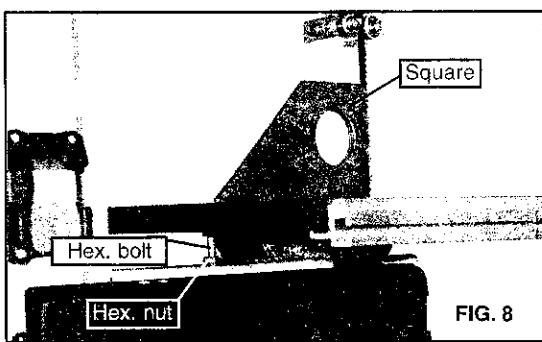

FIG. 8
- Using a wrench, release the hex. nut on the frame. (See Fig. 8)
- Place the wrench on the hex. bolt and adjust until the table square to the saw blade.(See Fig.8)